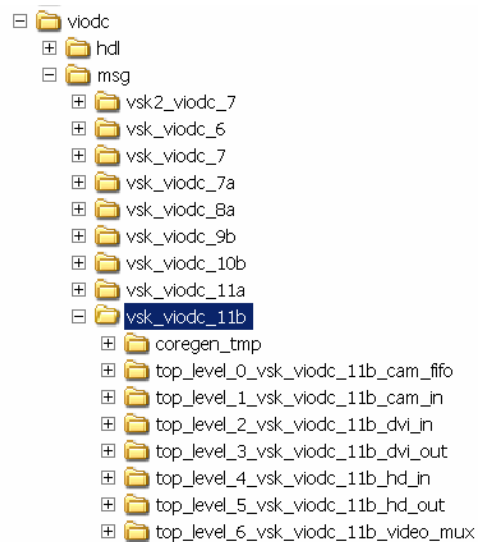

Figure 7-4: Directory Structure Generated by Multiple Subsystem Generator
5. The resulting directory will look similar to the following directory structure: (Figure 7-4).